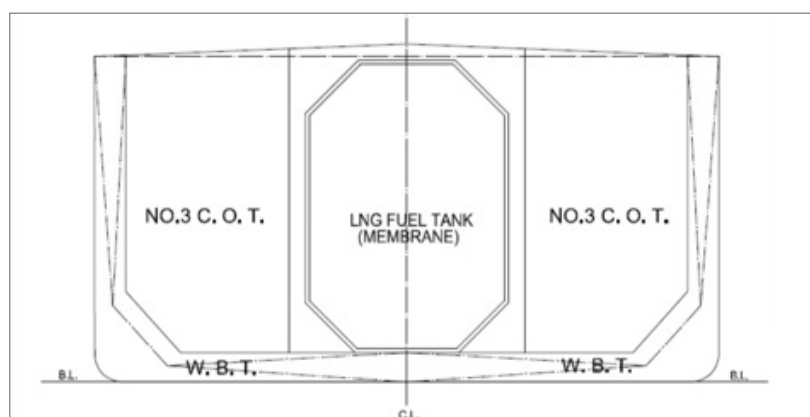

Figure 4: Mark III tank solution for VLCC
- Limited footprint makes it particularly interesting for narrow tanks. In case of Very Large Crude Carriers (VLCCs) for instance, the Mark III LNG fuel tank can be fitted in the cargo area, between the two internal longitudinal bulkheads (Figure 4). The reduced width of the new dome fits then perfectly with the narrow ceiling.